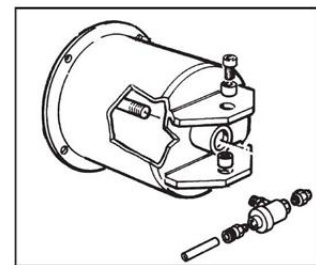

Fig. 5-7
- To clean or replace the bead breaker silencer, refer to Fig. 5-7 and follow steps 1 and 3 above.